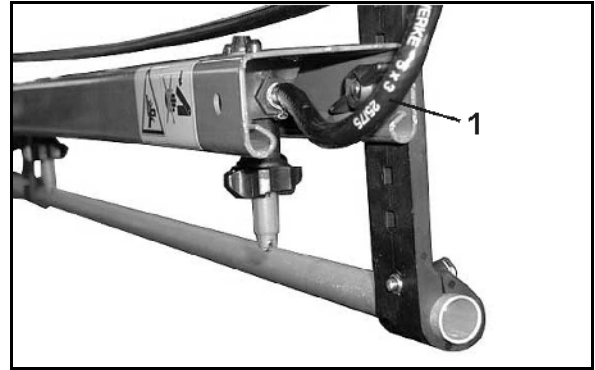

Fig. 107
- enables the constant circulation of liquid in the spray line. For these purposes, a suction port hose (Fig. 107/1) is assigned to each part width section.
- one suction port hose (Fig. 107/1) per part width section.